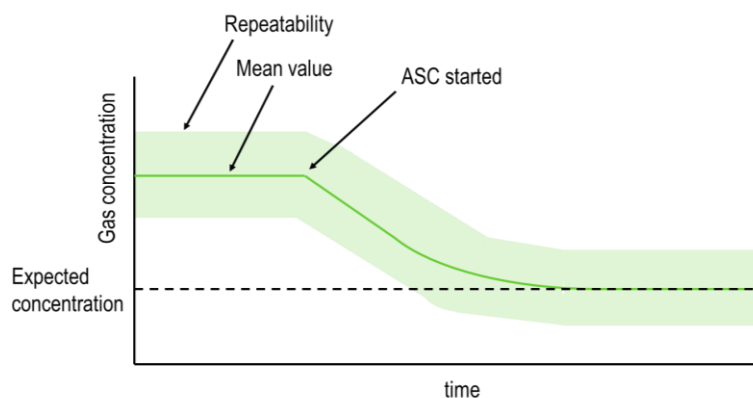

**Figure 7:** Low-pass filter behavior
- 1) Enable weak and/or strong filtering and take several consecutive measurements to have a stable, noise free CO2 reading (while providing relative humidity, temperature (if external is used), and pressure inputs for compensation – see **Figure 7**: Low-pass filter behavior for low pass filter behavior).